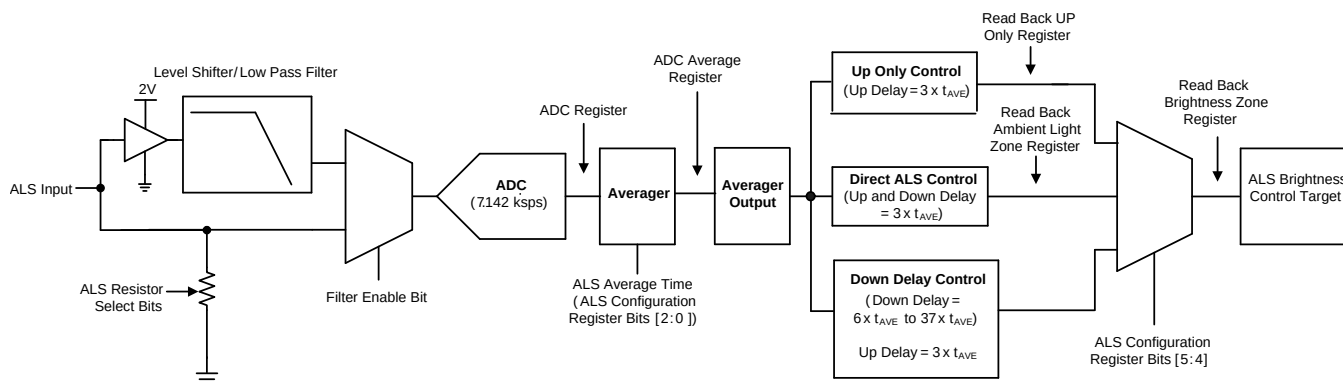
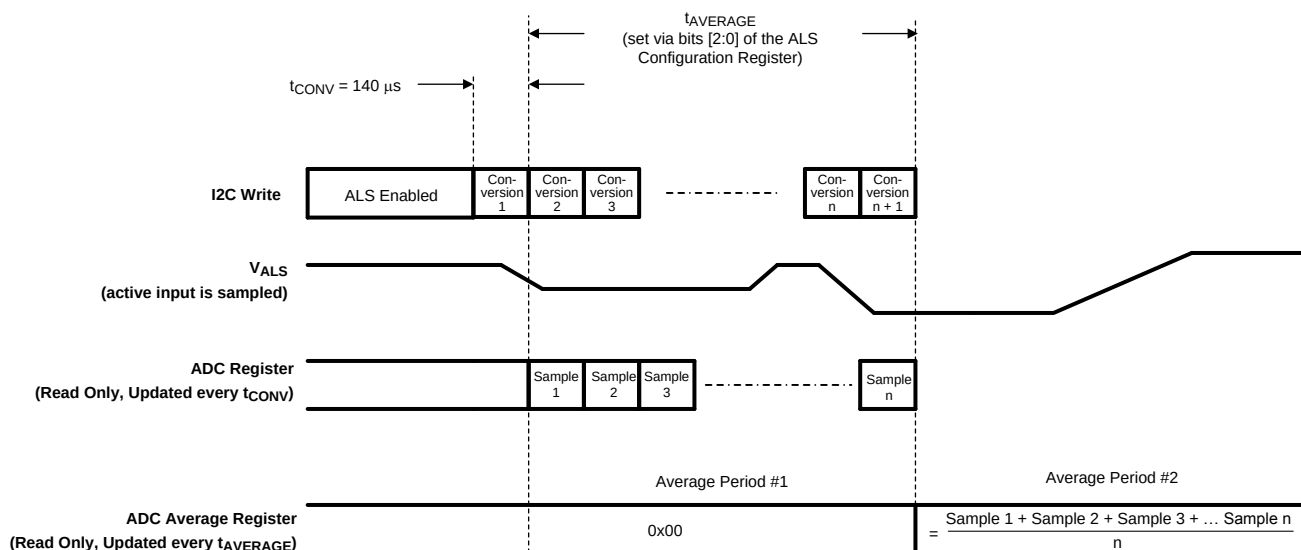

Figure 27. ALS Block Diagram
Figure 28. ADC Timing
Figure 27 shows the functional block diagram of the LM3533 device ALS interface.
The LM3533 digitizes the ALS voltage using an internal 8-bit ADC. The ADC is active as long as the ALS enable bit is set. Once set, the ADC begins sampling and converting the voltage at the ALS input at 7.142 ksps. The ADC output can be read back via the ADC register (address 0x37). With the ALS enable bit set, the ADC register is updated every 140 μs. Figure 28 details the timing of the ADC.
Once digitized the output of the ADC is sent into the ALS averager. The averager computes the average of the number of samples taken over the programmed average period. The ALS average times are set via bits [5:3] in the ALS Configuration Register. The output of the ALS average can be read back via the ADC Average register (address 0x38). With the ALS Enable bit set, the ADC Average register is updated after each average period (see Figure 28). After every average period the Averager Output stores the information for which brightness zone the ALS input voltage resides in (see Figure 27).
5. The Averager Output (see Figure 27) contains the zone that is determined from the most recent full average period.